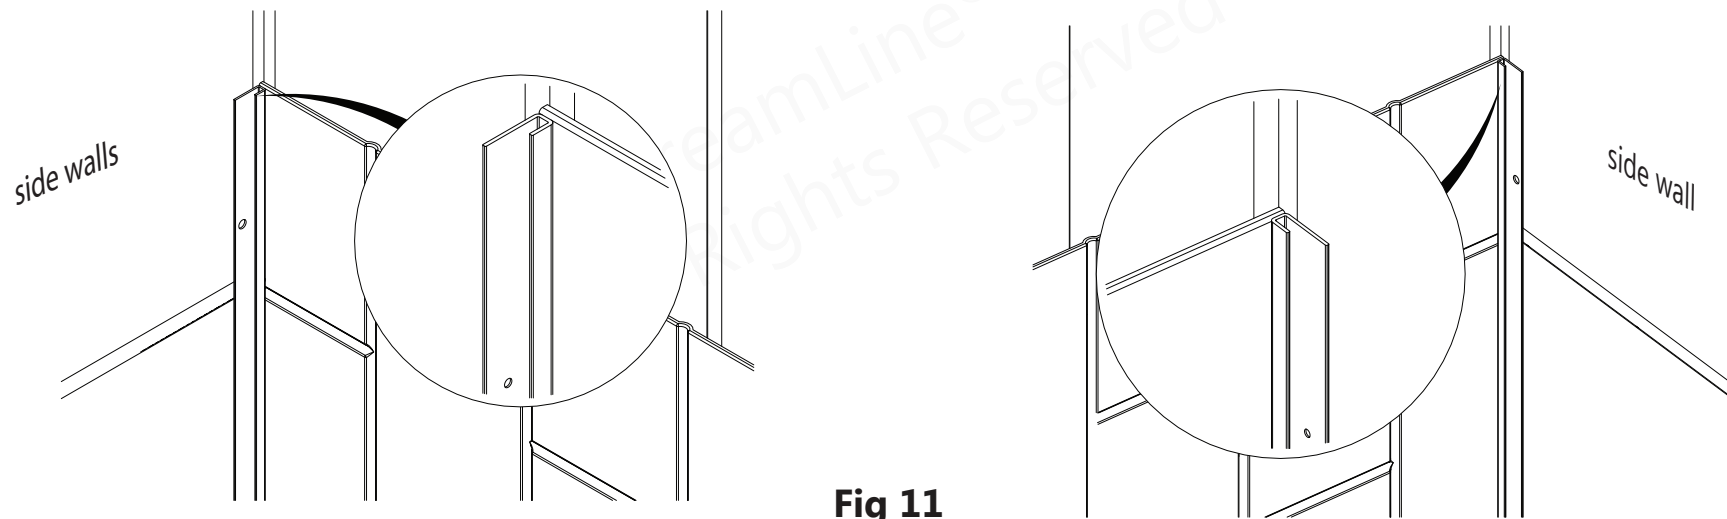

**Fig 10**
**10.** When applying adhesive to the back surface of the 2nd **Q-Wall Back Panel**, do not apply adhesive to the overlapping section. The clear silicone (applied to the installed **Q-Wall Back Panel**) will secure the two sections and waterproof the seam. Once the remainder of the back surface of the 2nd **Q-Wall Back Panel** is covered with adhesive, install the 2nd **Q-Wall Back Panel** onto the the wall of the opening, pressing firmly over the entire surface, paying special attention to the edges and corners and overlapping section. Remove the protective plastic covering from the 2nd **Q-Wall Back Panel** once installed. **Fig 10**